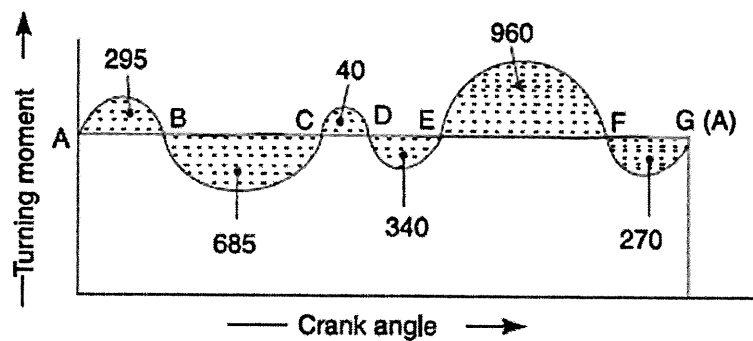

Figure 5
- c) The turning moment diagram for a petrol engine is drawn to the following scales: Turning moment, 1 mm = 5 Nm; crank angle, 1 mm = 3° horizontally shown in Figure 5. The turning moment diagram repeats itself at every half revolution of the engine and the areas above and below the mean turning moment line taken in order are 295 mm2, 685 mm2, 40 mm2, 340 mm2, 960 mm2, 270 mm2 when the engine is running at a speed of 600 rev/min. If the total fluctuation of speed is not to exceed ± 1.5% of the mean, **determine** the necessary mass of the flywheel of radius 0.5 m.